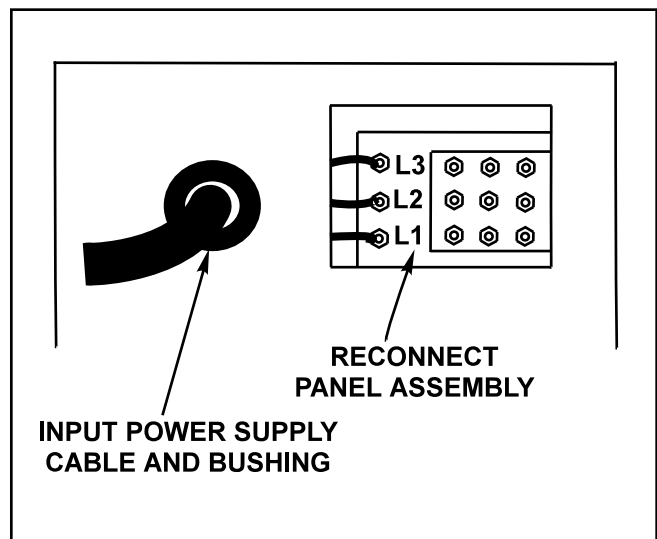

FIGURE A.2 - Input Power Supply Connection
Before installing the machine, check that the input supply voltage, phase, and frequency are the same as the machine's voltage, phase, and frequency as specified on the machine's rating plate on the Case Front Assembly Control Panel. Connect input power supply by removing the rear access panel and connecting to the three line terminals on the input panel. See Figure A.2 for the location of the machine's input cable entry opening and reconnect panel assembly for dual voltage machines.
5. Connect the three-phase AC power supply leads L1, L2, and L3 to the input terminals on the reconnect panel. See Figure A.2